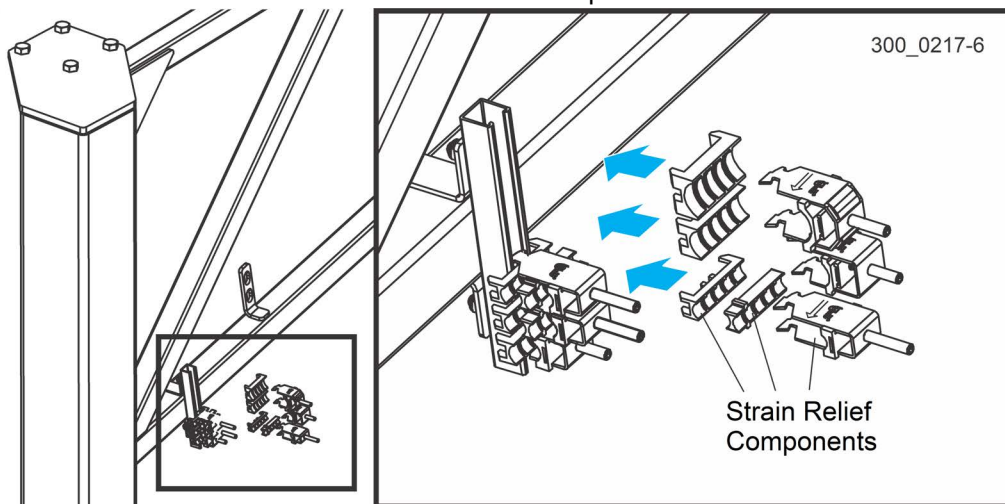

FIG. 3-12
11. Assemble the strain relief components to the strain relief brackets. (See Figure 3-12.)